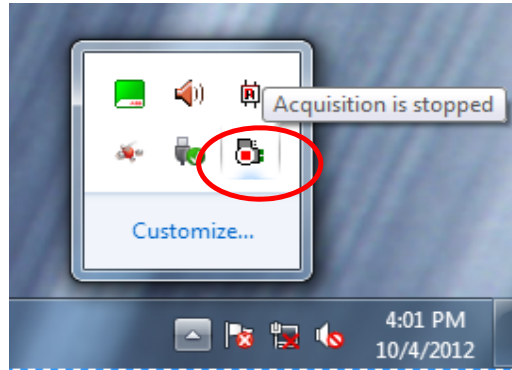

Figure 3: Checking status
- After the installation is complete go to the right corner of the task bar and right click on the iBA PDA icon and click status. Refer Figure 3 for the visual.